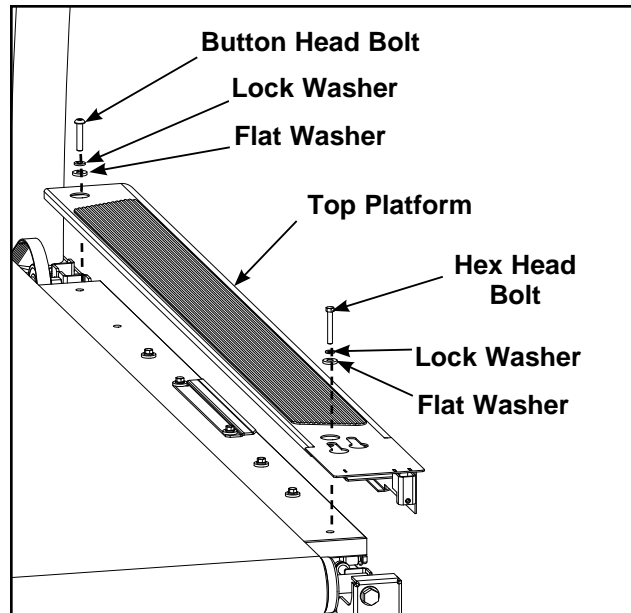

Figure 10
- A. Using a 7/16" Socket wrench, remove the hex head bolt, lock washer and flat washer at the rear of the top platform. See Figure 10.
- B. Using a 3/16" Allen wrench, remove the button head bolt, lock washer and flat washer at the front of the top platform. See Figure 10.
- B. Using a 3/16" Allen wrench, install and tighten the button head bolt, lock washer and flat washer at the front of the top platform. See Figure 10.
- C. Using a 7/16" Socket wrench, install and tighten the hex head bolt, lock washer and flat washer at the rear of the top platform. See Figure 10.